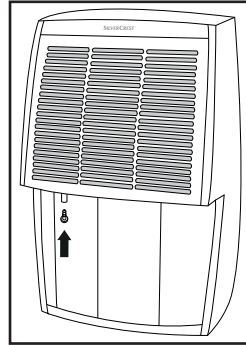

Fig. 6
- ◆ Then insert the stopper into the outlet aperture for the water tank (see fig. 6).